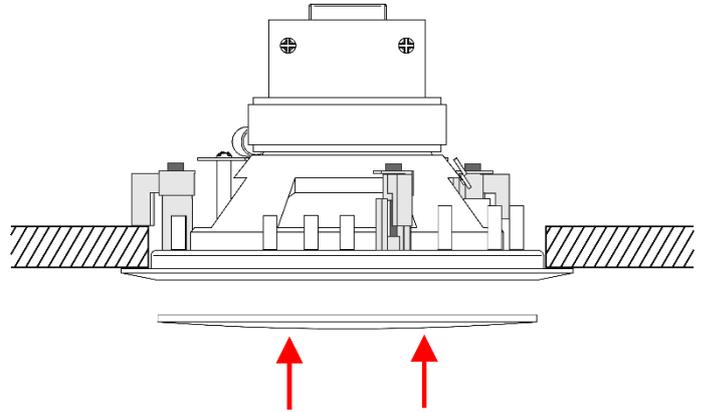

Fig. 08
- 12) Attach the **grill (03)** to the speaker by pushing it carefully into the **bezel (02)**, as shown on Fig. 08.